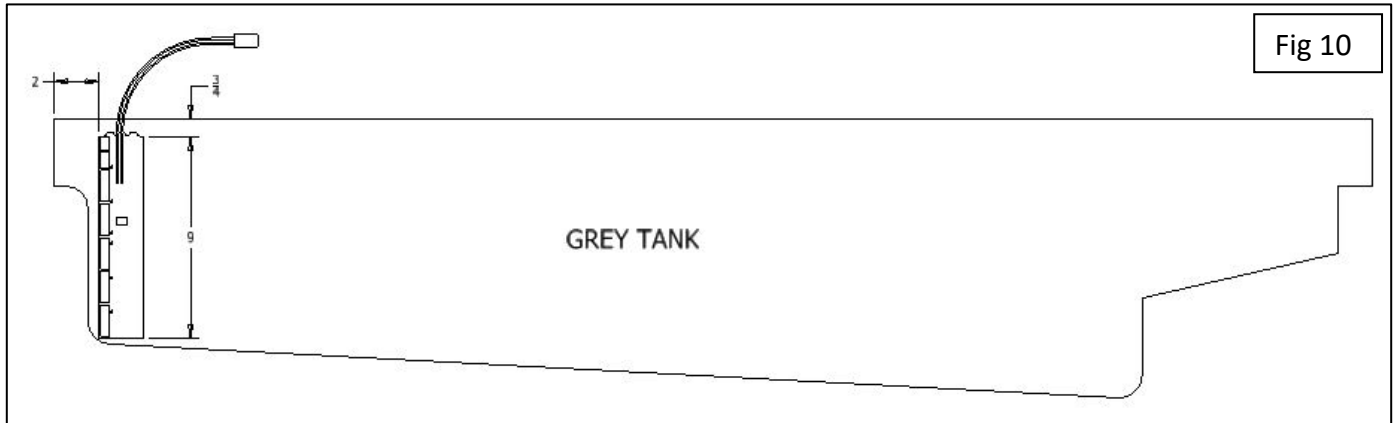

Fig 10
9. Install the 9 inch grey tank sensor on the grey tank. (Figure 10)